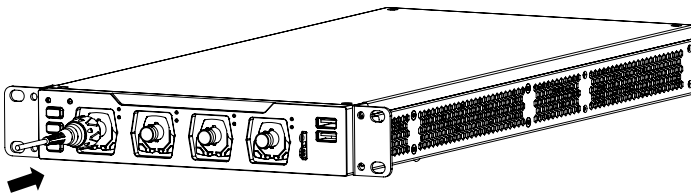

Figure 5 To Connect the Passive Probe
1. Connect the BNC terminal of the probe to an analog channel input terminal of the oscilloscope on the front panel, as shown in Figure 5.